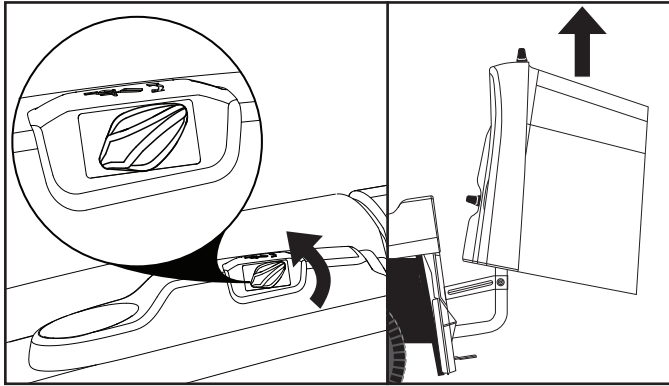

Fig. 21
## TO OPERATE ELECTRIC DUMP SYSTEM (See Fig. 21 and 22)
- To lift the bagger, turn the electric dump switch counter clockwise. See Fig. 21.